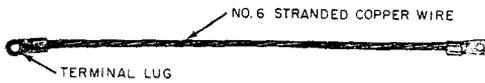

Fig. 3—Strap, C Bond Clamp (11 Inch)
- (b) **Strap, No. 6 Stranded Copper Wire** (Fig. 3)—Used to provide positive continuity between the bond clamp and the closure ground bracket.